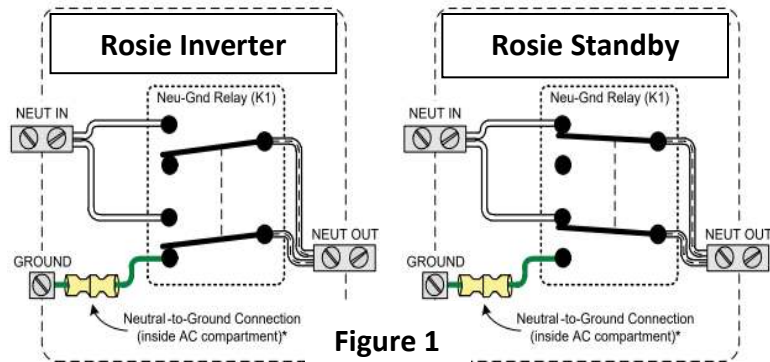

Figure 1
- The **MNROSIE7048M** uses an internal relay (**Figure 1**) that automatically connects the AC neutral output terminal to the vehicle/ boat’s ground while inverting (Inverter mode) to provide the neutral-to-ground bond. However, when an external AC source (i.e., shorepower or a generator) is connected, another neutral-to-ground connection is introduced in the system.